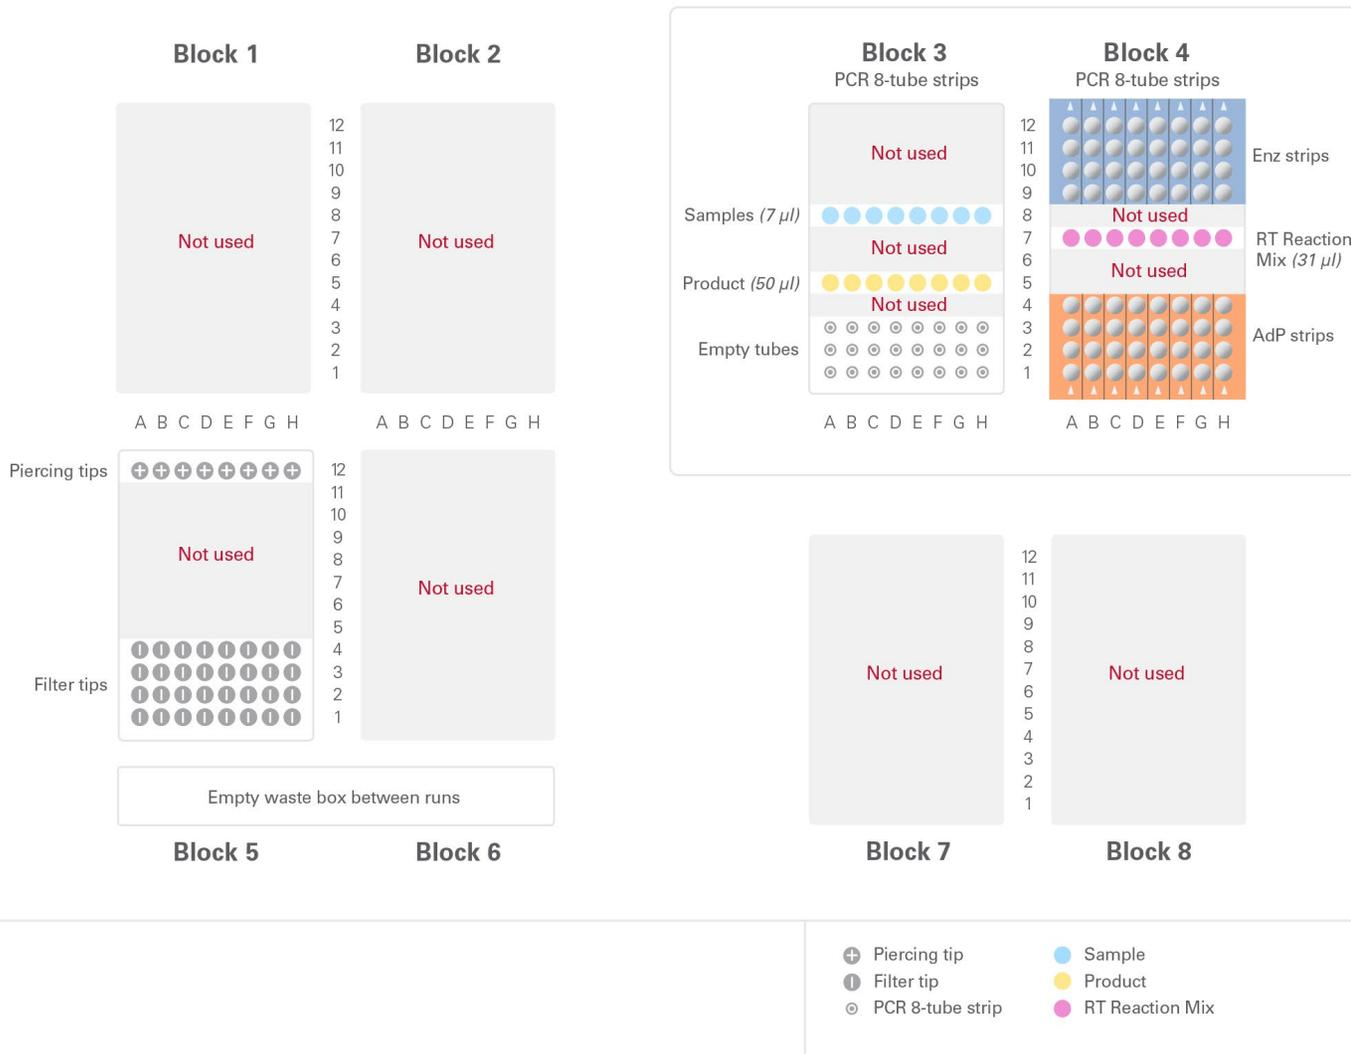

Figure 2. Deck layout for library synthesis from 8 samples. For this protocol, use script PrepX\_small RNA\_8. Run time is 4 hours and 45 minutes.
2. Load consumables onto the Apollo system work surface according to the layout in Figure 2. First, load the consumables that do not initially hold reagents (table above). Just before the run, load the consumables containing reagents, but not samples, onto the system. For information on the deck layout when processing fewer than 8 samples, please see Appendix B.
4. When the **Cooling** indicator has disappeared, and the **Run** button has appeared, load the samples and the correctly oriented blue Enzyme Strips and orange Adapter/Primer strips (AdP Strips) onto the Apollo deck according to the instructions shown on the touch screen and the layout shown in Figure 2.